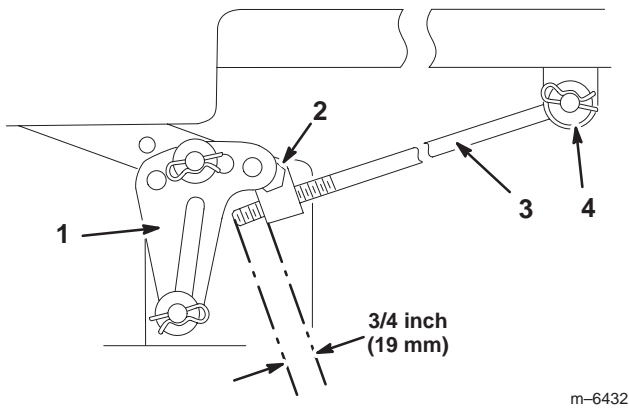

Figure 40
5. Measure the length of the rod extending out of the adjusting block on the sides of the chassis (Fig. 40).
6. If the rod length is **not** a 3/4 inch (19 mm), remove the hairpin cotter and washer from the end of the adjusting rod (Fig. 40) and turn the rod until the 3/4 inch (19 mm) dimension is obtained.